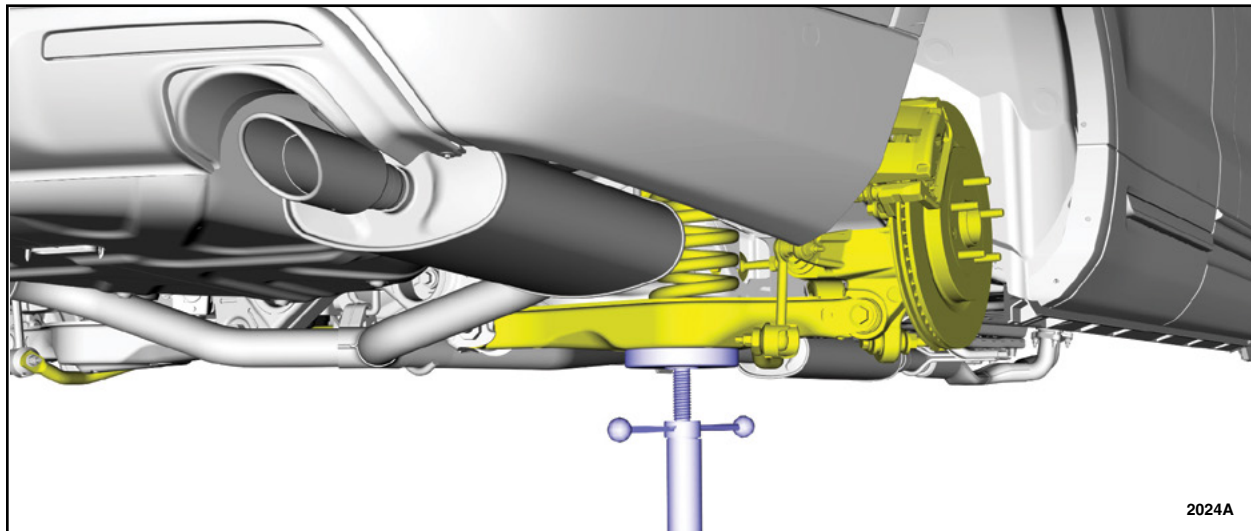

FIGURE 8
12. Remove the jack stand. See Figure 8.